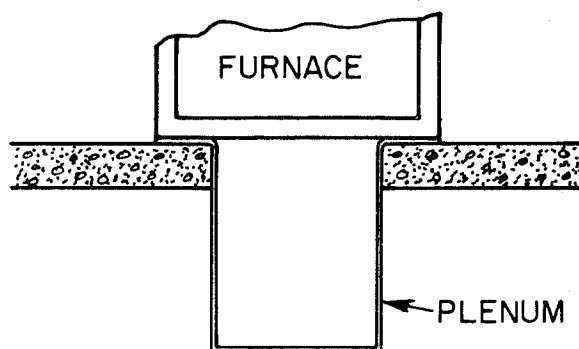

Fig. 3—Furnace on a Concrete Slab
2. Place plenum and furnace as shown in Fig. 3.